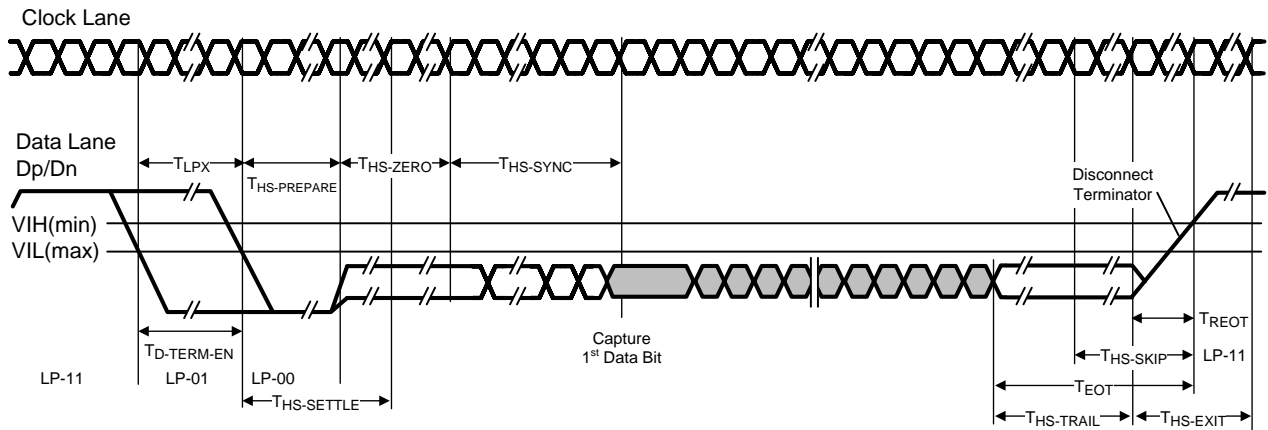
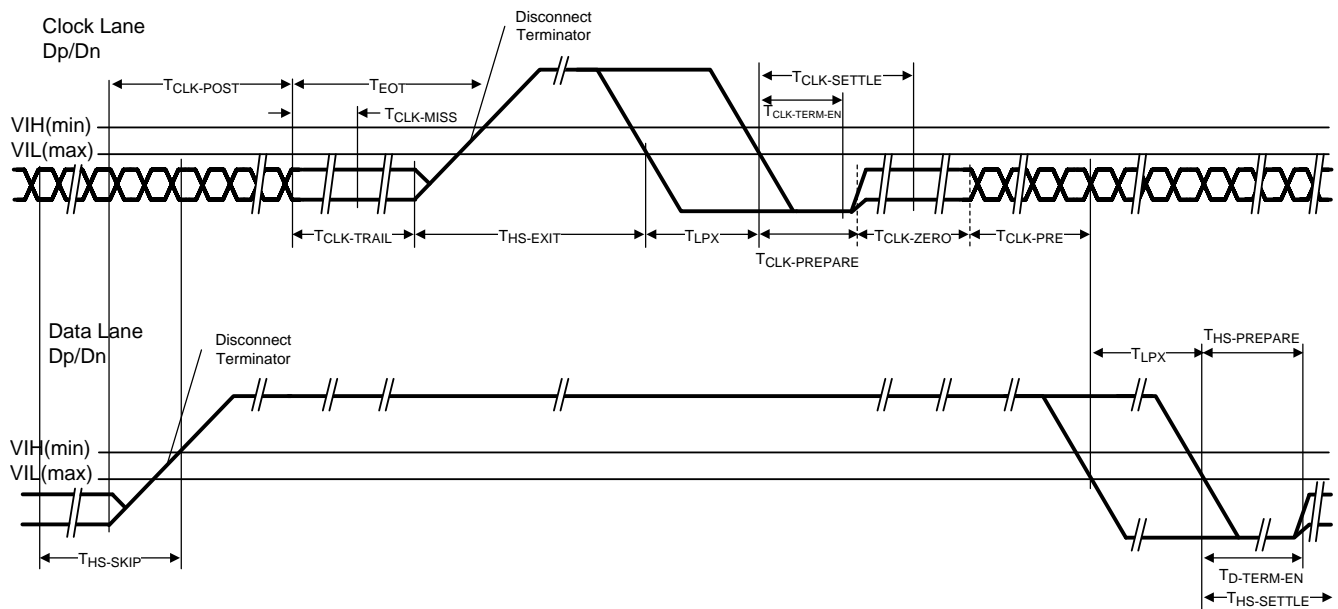

Figure 11. High Speed Data Transmission Burst
Figure 12. Switching the Clock Lane between Clock Transmission and Low-Power Mode
CSI-2 TIMING SPECIFICATIONS (1) (Figure 11, Figure 12)